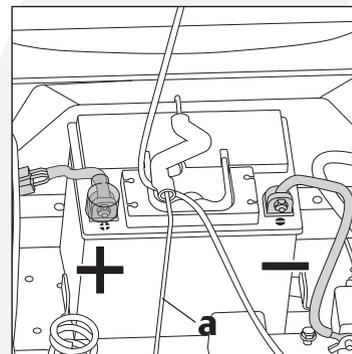

Fig.29
2. Remove the "J" end (a) of the battery securing rod out a small hole. (Fig.29)
3. Remove another end of the battery securing rod into the concave groove. (Fig.29)